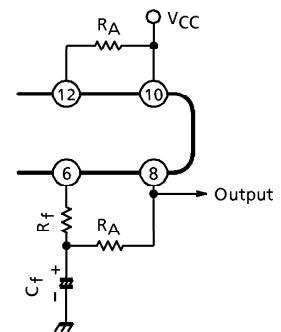

Fig.3
1) In case of the battery use ($V_{CC} \leq 6V$), this IC is happen to oscillate (blocking oscillation) when the impedance of power supply is high. In this case, it is recommended to insert the resistance R_A of $500\Omega \sim 1k\Omega$ between ⑩ pin and ⑫ pin (V_{CC} - Filter II). By this method, this IC becomes very stable. But the output DC voltage is not center by the influence of R_A . Then the output wave shape is not symmetrical clipping wave and the maximum output voltage is reduced. So we recommend to insert the other resistance R_B between ⑥ pin and ⑧ pin for compensating the output DC voltage.
2) When you use this IC at the supply voltage of more than 6V, it is better to insert the resistance R_B for compensating output DC voltage. (Fig.3)